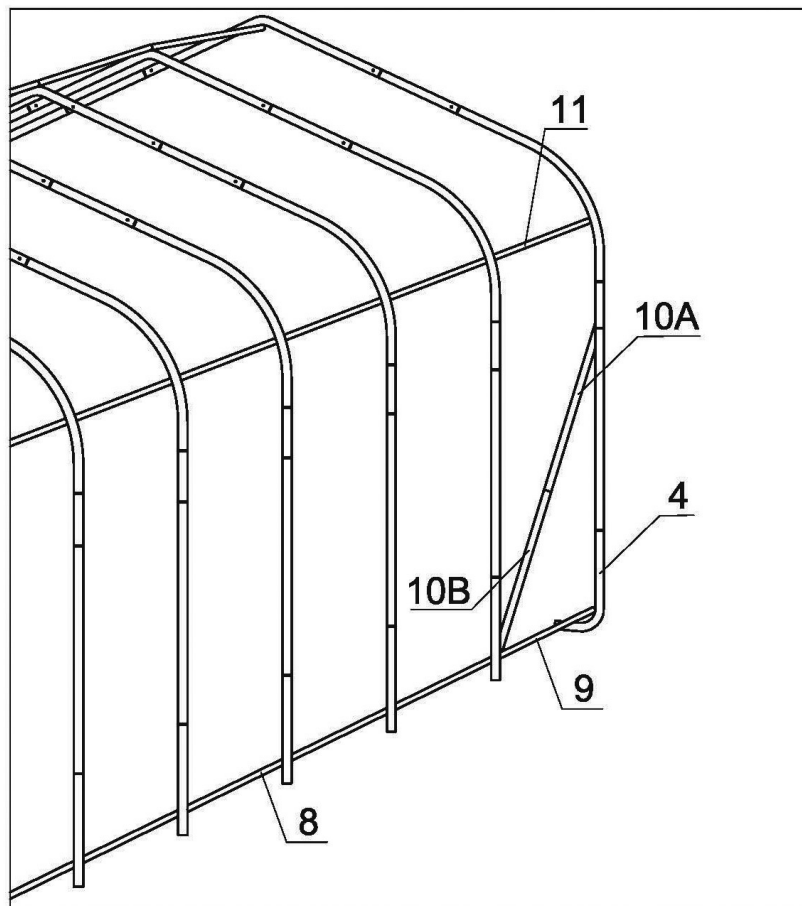

Figure 4
1. At the base of the rear End Bow, fit the End Bottom Rail (9) to the Corner Foot (4). Attach Support Braces (10a+b) to the center of the last End Bow. Use bolts (13), washer (17), and nuts (16). Repeat on the other side of the End Bow. Do not completely tighten at this time because minor frame adjustments will be done later.
2. At the base of the first Bow in from the end, attach End Bottom Rail (9) to the base of Foot (5). Swing the end of the Support Braces (10a+b) over to the connection of Foot (5) and the end of the Bottom Rail (8). The tapered end of Bottom Rail (8) fits into End Bottom Rail (9). Use bolts (13), washers (17), and nuts (16). Do not completely tighten at this time because minor frame adjustments will be done later. Repeat these steps on the opposite end of the End Bow. Continue assembling (8) between all of Middle Bows until the final Middle Bow using the nuts and bolts (14) and (16). See Figure 4.